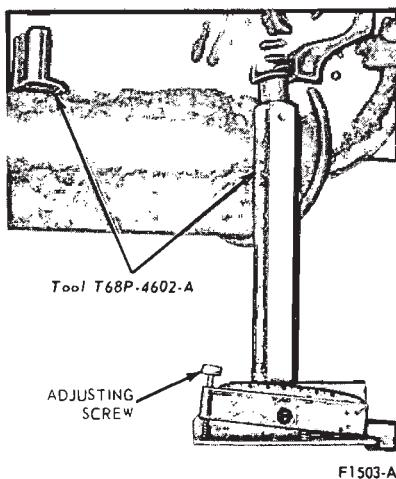

FIG. 5—Measuring Pinion Angle
5. Now position the magnetized tool on a U-joint bearing cap as shown in Fig. 5 with the tool in the same relative position as it was on the